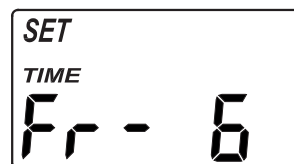

FIG. 32
2. Press the SELECT button six times, so that “SET TIME Fr” appears in the display (See Figure 32).